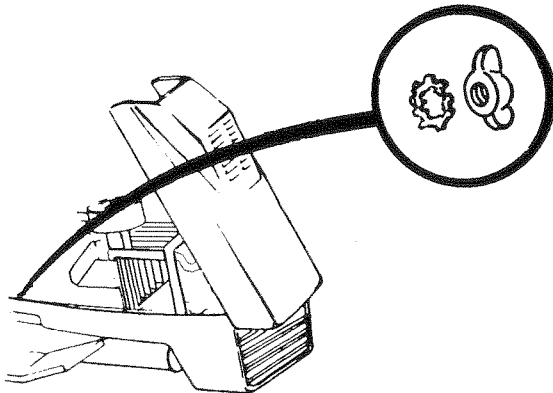

FIGURE 3
- Remove Hood assembly by removing Int./Ext. Tooth Lockwasher and Wing Nuts (Fig. 3).